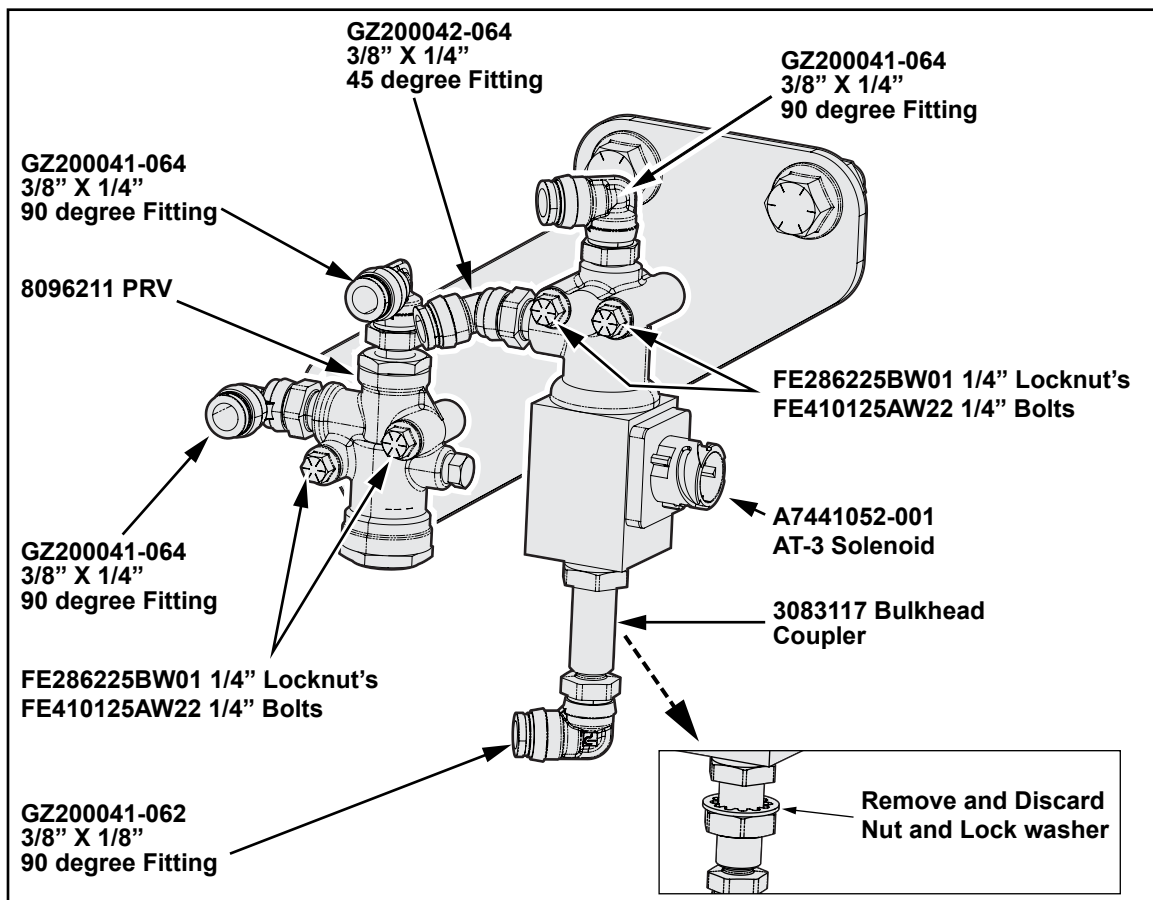

Figure 5
4. Install (3) GZ200041-064 3/8" X 1/4" 90 degree fittings, (1) GZ200041-062 3/8" X 1/8" 90 degree fitting and (1) GZ200042-064 3/8" X 1/4" 45 degree fitting. Apply paste or liquid pipe thread sealant to the exposed threads (obtained locally). Locate the 3083117 Bulkhead fitting, remove and discard the nut and lock washer. Apply paste or liquid pipe thread sealant to the exposed threads (obtained locally), install the 3083117 Bulkhead fitting and tighten to 15 lbs. ft. of torque (see Figure 5).
5. Using (4) FE286225BW01 1/4" locknut's and (4) FE410125AW22 1/4" bolts, install the valve assembly to the S7440003-001 bracket (see Figure 5).
**Note:** Verify orientation as indicated in Figure 5.